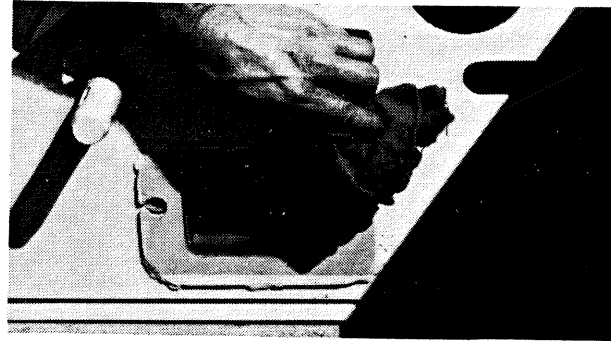

Figure 17
(4) Make sure all mating surfaces are clean of asphalt, dirt, or anything that would prevent these surfaces from fitting snugly together. Pay special attention to the screed bottom, strike-offs and heat duct tube area. (Figure 17)